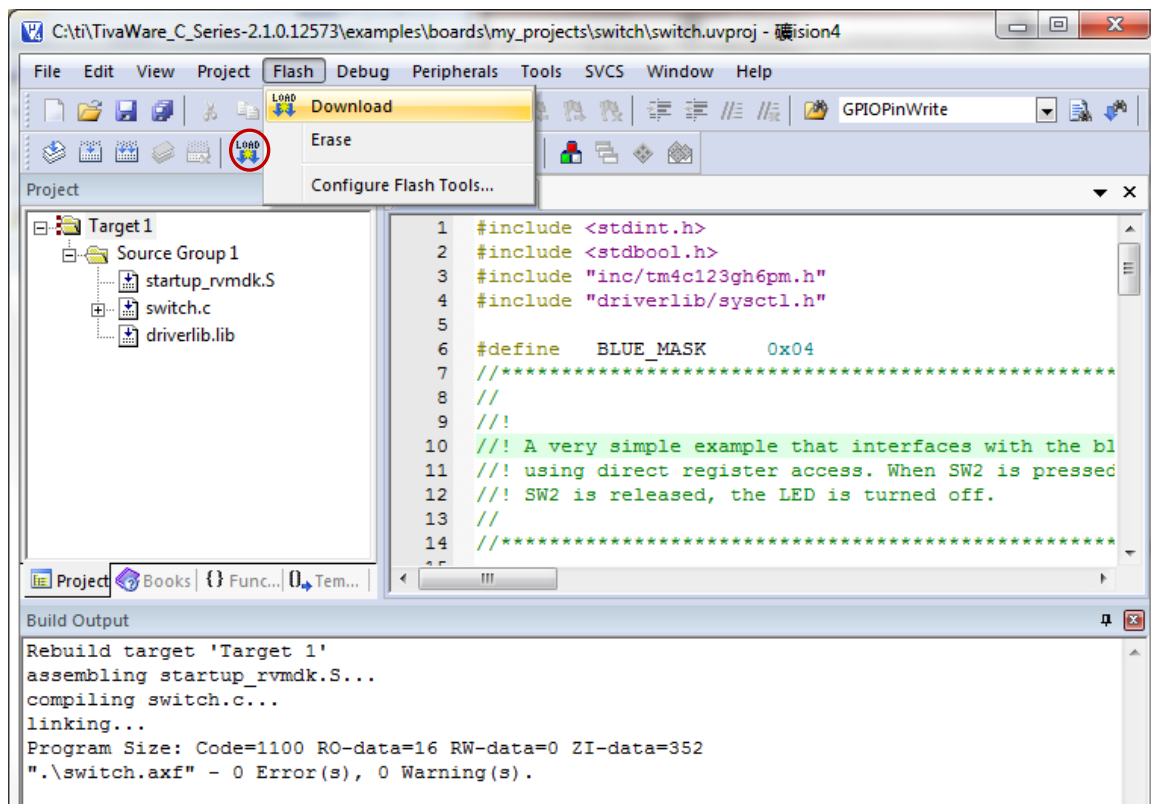

Figure 8
8. Load the program into the flash memory (make sure you have plugged in the LaunchPad). Select Download from the Flash menu, or click the Download button (icon) (see Figure 8).